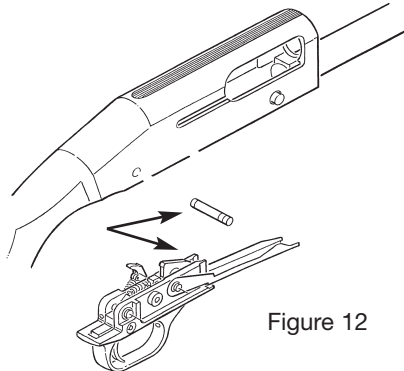

Figure 12
1. Push out the trigger housing retaining pin using a blunt object no larger than 1/8" diameter (See Figure 12). The pin can be pushed out from either direction.